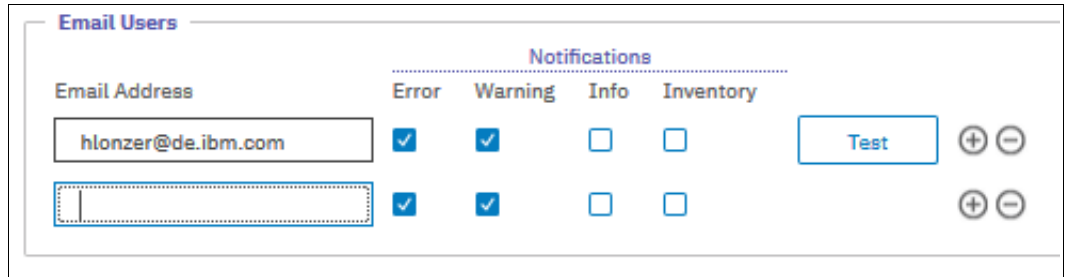

Figure 12-80 Add Email address
- Enter the email address of the new user (see Figure 12-80).